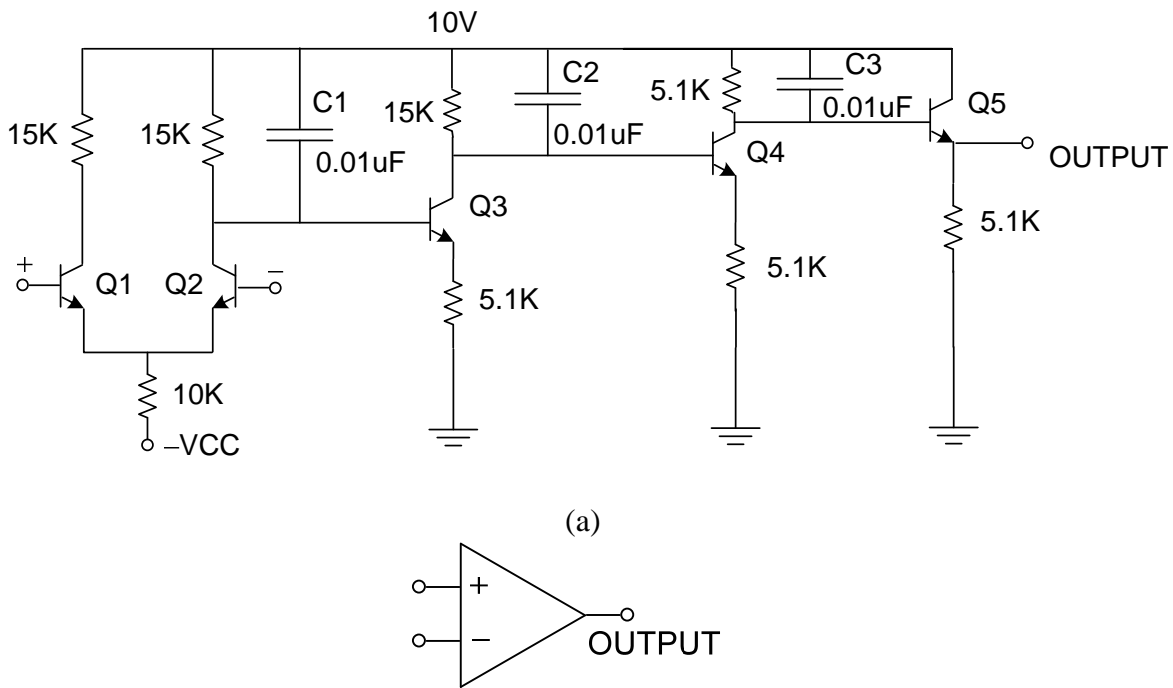
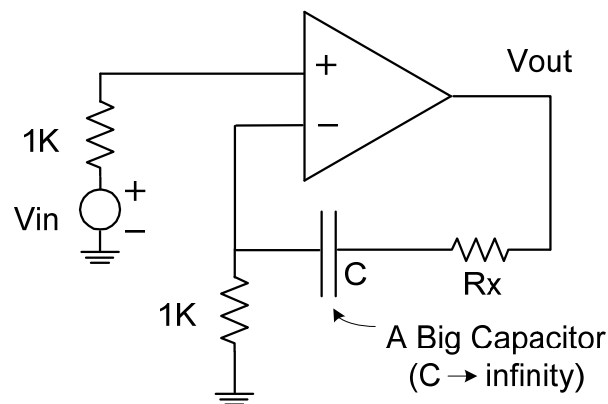

Figure 1. (a) Open-loop amplifier schematic. (b) Symbol for the circuit in (a).
Figure 2. Transistor amplifier in feedback.
Three low frequency poles are intentionally designed into the circuit shown in Figure 1. The three poles, p_1 - p_3 , are associated with the three capacitors C_1 - C_3 . (For this experiment, the internal capacitances associated with the transistors can be ignored – i.e. they are open circuits – since they introduce additional high frequency poles that are at much higher frequencies than poles p_1 - p_3 .) As a result of the choice of p_1 - p_3 , the circuit, when connected in feedback, is not unity-gain stable. Therefore, it will oscillate if it is connected in a feedback configuration with too much feedback. Also, in order to make the open-loop gain characteristic easy to measure, the gain of the circuit is intentionally designed to be less than 1000. The circuit consists of four stages: a differential-pair input stage, two common-emitter-with-degeneration intermediate stages, and an emitter follower output stage. The input stage amplifies the differential input signal, provides most of the circuit's voltage gain, and produces one of the three low-frequency poles. The two intermediate gain stages provide very little gain; however, they each establish one of the three low-frequency poles. The output stage is a voltage buffer stage with a low output resistance.
- (1) Assume the base of Q_1 is connected to ground via a 1k Ohm resistor, and the base of Q_2 is connected to ground via a 1k Ohm resistor. Assume that $-V_{CC}$ is adjusted so that the voltage at the collector of Q_2 (V_{C2}) is 2.6 Volts DC. Assume that $\beta \gg 1$ for all transistors. Calculate the DC voltage for all circuit nodes in Figure 1.
- (2) Calculate the low-frequency voltage gain from the positive input to the output, when the negative input is grounded.
- (3) Note that C_1 , C_2 , and C_3 each produce a low frequency pole. Note also that these three poles are independent of each other. Estimate the values of the three low-frequency poles.
- (4) Calculate and plot magnitude of gain (in dB) vs. frequency from 50 Hz to 30 kHz on a log-log scale.
- (5) Calculate and plot phase of gain (in degrees) vs. frequency for the same frequencies on a linear-log scale (phase on a linear (y) scale, frequency on a log (x) scale).
- (6) From the plots of parts 4 and 5 above, determine the gain and phase margin if this amplifier is used in a feedback circuit with feedback factor of 1 (i.e., in a unity-gain feedback configuration: $R_x = 0$ in Fig. 2). Is the unity-gain feedback circuit stable? If the circuit is connected as shown in Figure 2, for what values of R_x will it oscillate and for what values of R_x will it be stable?
- (7) Calculate the value of C_1 necessary to compensate the circuit in Fig. 2 so that it will have a phase margin of about 45° when the closed-loop gain is $V_{out}/V_{in} = 10$.
- (1) Build the circuit in Figure 1 neatly (see NOTE below). Widely separate the first three gain stages to avoid interstage capacitive coupling, which could cause undesired feedback. Also connect a 1k Ohm resistor from the base of Q1 to ground and from the base of Q2 to ground. It is suggested that you build the circuit one stage at a time and verify the DC operating point as you go. Adjust $-V_{CC}$ so that VC2 is approximately 2.6 Volts DC. (Then $-V_{CC}$ will be approximately -10 volts.)
THE MOST NEGATIVE SUPPLY ($-V_{CC}$) to assure proper operation of the transistors. Make this connection, which is not shown in Figure 1, and do not use the transistor that has its emitter connected to pin 13.
Simulate the AC loop gain and phase vs. frequency for Fig. 1 (uncompensated: $C_1 = 0.01 \mu\text{F}$) for the value of R_x that initiated oscillation in Step 5. Compare SPICE and measured results. Report the phase margin, both simulated and measured.
- (11) Simulate the loop gain magnitude and phase vs. frequency for Fig. 1 (compensated) using the value of R_x that sets the closed-loop gain to 10 (see Step 8). Compare SPICE and measured results. Report the simulated phase margin.